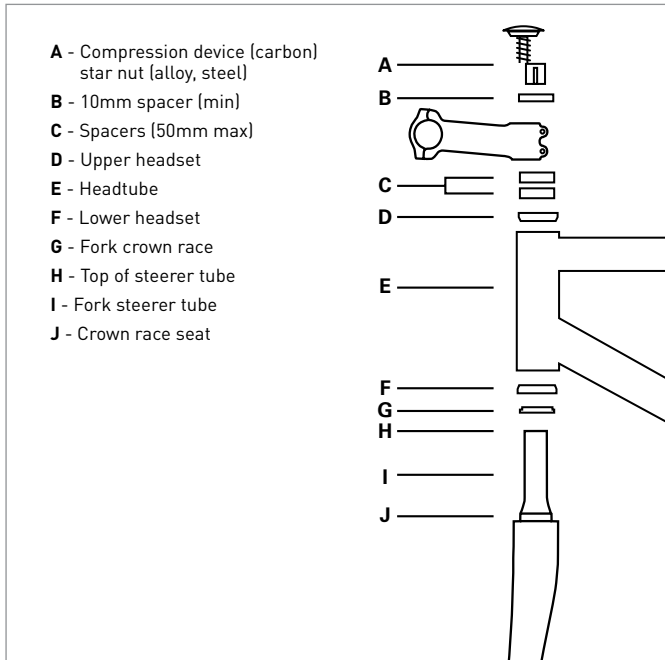

Figure 3
- Assemble the fork, headset and any spacers in the headtube of the bicycle and install the stem (Fig. 3).